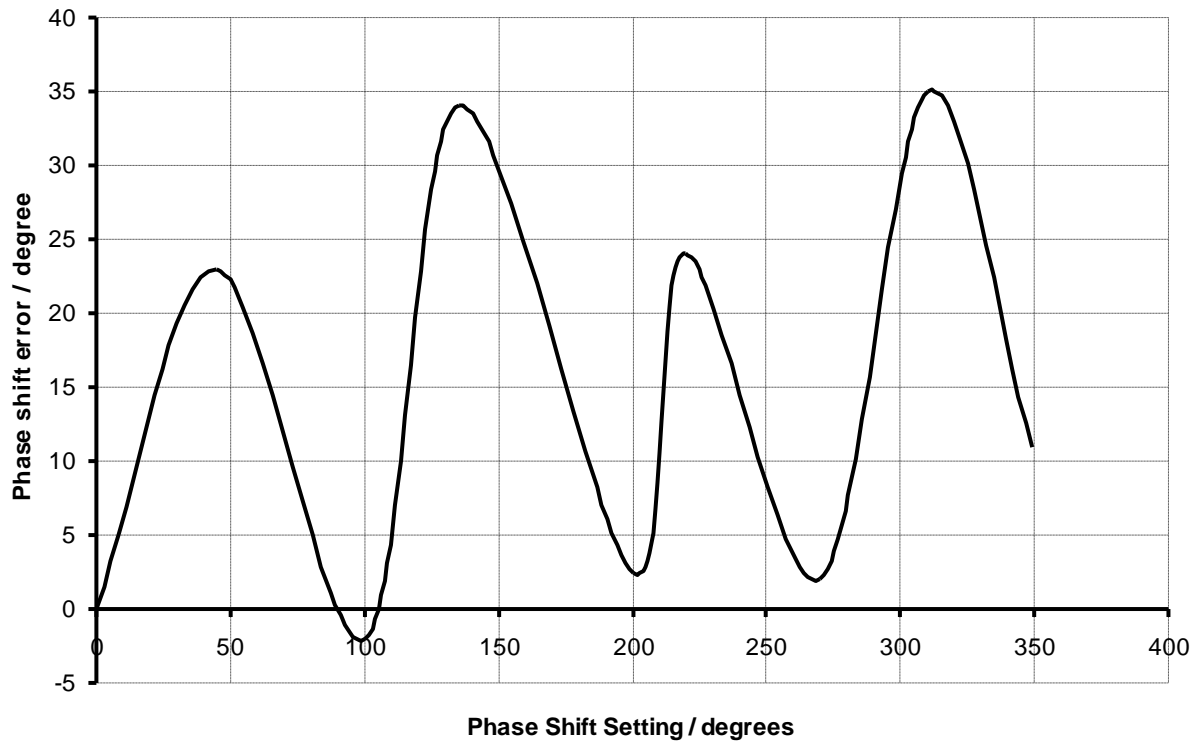

Figure 13 Typical variation in errors in phase shifter steps at 30MHz
- Phase shifter accuracy degrades significantly, especially for operation below 50MHz. Individual phase shift steps at 30MHz can be as low as 0 degrees and as high as 30 degrees (compared to the nominal step of 11.25 degrees), see Figure 13.
- The phase shift errors generally follow a consistent pattern between devices, see Figure 13.